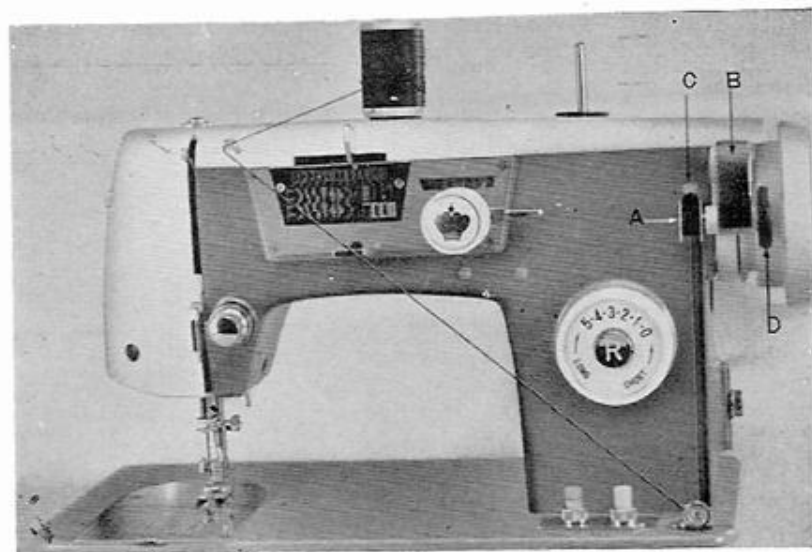

Fig. 4-2
- (b) Place the spool on the spool pin pass the end of the thread through thread tension disc, from left to right, and wind the end of the thread around the bobbin seven or eight times, and place the bobbin on the bobbin winder spindle (A, Fig. 4-2). Press the stop latch adjusting plate (B), and the bobbin presser (C) comes into the bobbin. The rubbering (D) then contacts the hand wheel. The bobbin winder automatically disengages when the bobbin is about 90% full.